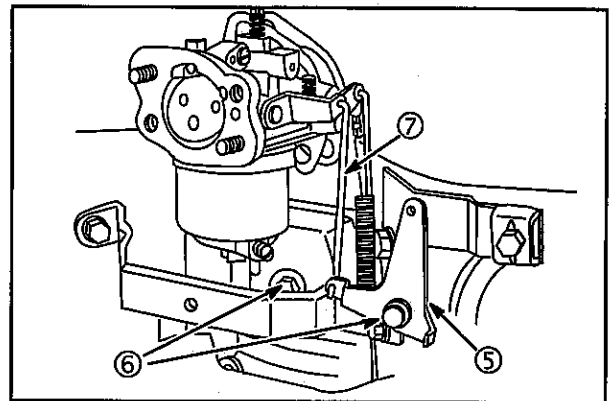
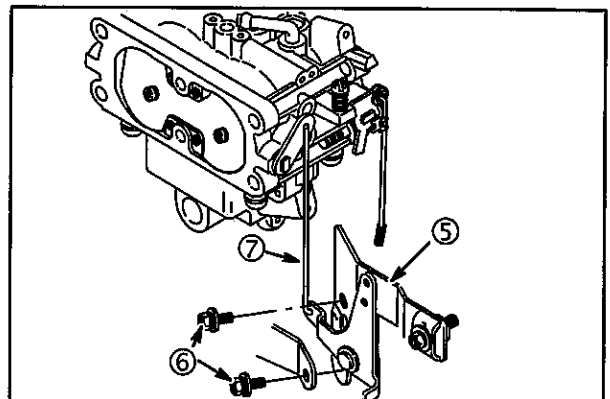

Fig. 27
Fig. 28
- Connect choke link (7) to choke lever and install choke control bracket (5), **single barrel carburetor, Fig. 27, two barrel carburetor, Fig. 28.** Torque screws (6) to **65 in. lbs. (7 Nm).**